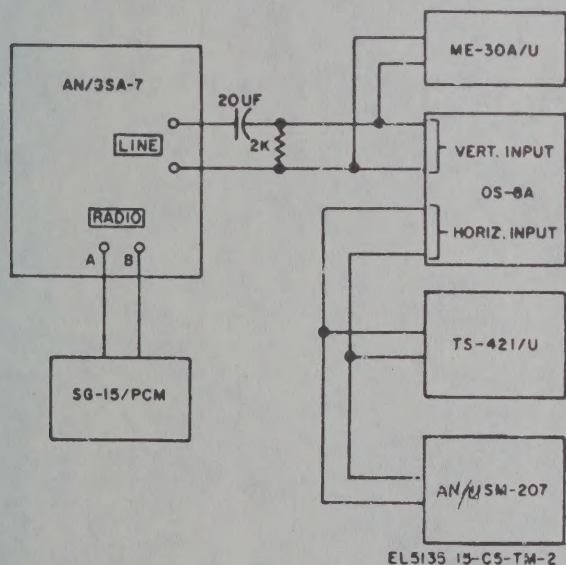

Figure 24.2 Output level test, 20 cycles.
**b. Output Level—20 Cycles (fig. 24.2).**
(1) Connect a 20 MFD capacitor in series with a 2000-ohm resistor across the LINE terminals.
(2) Connect the ME-30A/U and the OS-8A/U vertical input across the 2000-ohm resistor.
(3) Position the OFF-AC-DC switch to AC.
(4) Connect the SG-15/PCM to terminals A and B of RADIO receptacle J3 or J4. Adjust the SG-15/PCM to a frequency of 1600 cycles plus or minus 30 cycles at an output level of -20 dbm (77.5 millivolts rms).
(5) With the TS-421/U and the AN/USM-207 connected to the horizontal input of the OS-8A/U, adjust the TS-421/U for a 1 to 1 ratio. Lissajous pattern on the OS-8A/U. The output frequency indicated on the AN/USM-207 must be 20 cycles plus or minus 2 cycles.
(6) The output voltage across the 2000-ohm resistor as indicated on the ME-30A/U must be greater than 40 volts rms.
(7) Disconnect the SG-15/PCM and hold the RADIO & MON switch in the RTEL position. The indication on the ME-30A/U must be greater than 40 volts rms.
(8) Position the OFF-AC-DC switch to OFF. Disconnect the capacitor, resistor and the test equipment from the AN/GSA-7.